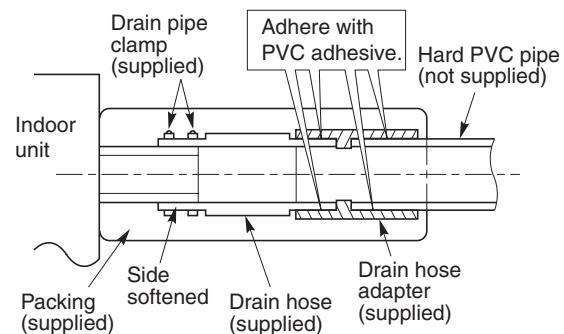

Fig. 1-66
- After connecting the drain pipe securely, wrap the supplied drain pipe insulator around the pipe, seal the gap at the drain socket with the supplied black insulation tape, then secure it with clamps. (Fig. 1-66)